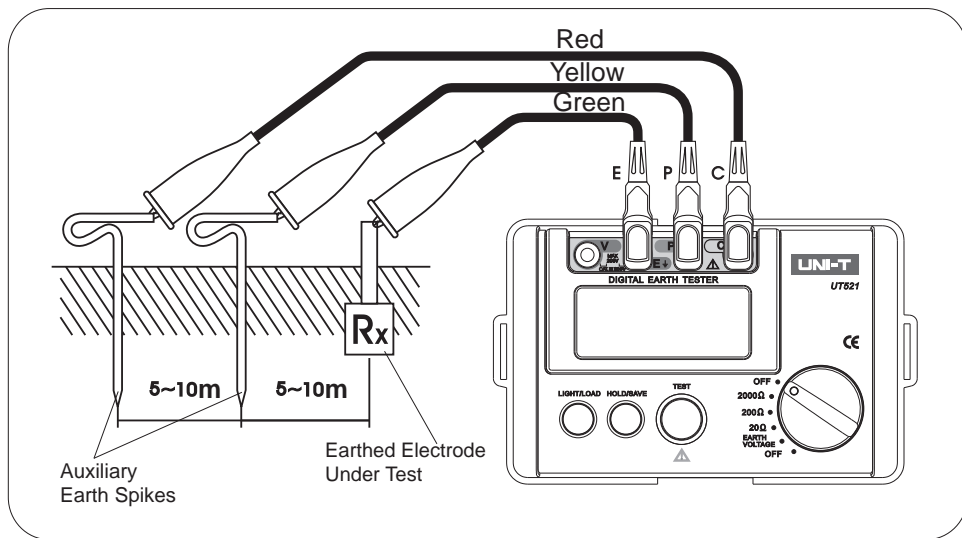

figure2
- a. place 2 ground stakes in earth/dirt. Minimum distance between earth electrode(E), probe(P) and auxiliary earth (C) should be 5-10 meter apart, as below connection figure 2: